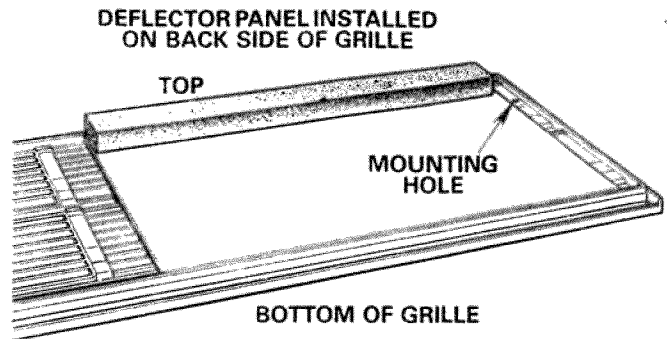

Figure 4 - Deflector Panel/Grille Assembly
7. To install the air deflector panel (part 1), first, **peel off the protective coating** from the double backed tape and place the air deflector panel, tape down, on the right rear of the grille. Next, **press down on the deflector** so the tape will adhere to the grille. **Apply RTV sealant WX06X0200** around the outside edges of the deflector panel for a good seal. **Do not cover the mounting screw hole** with the panel. Refer to Figure 4.